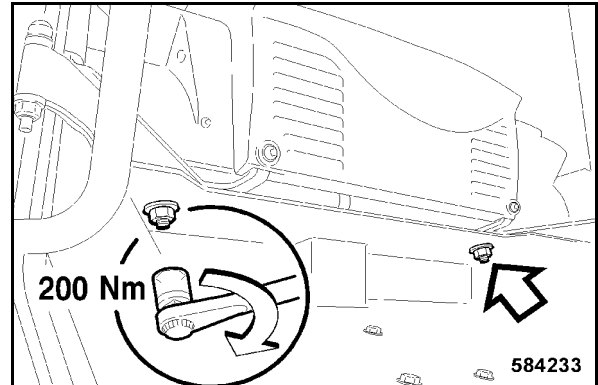

Fig. 218
- Turn nuts with washers onto both studs and tighten with 200 Nm (Fig. 218).